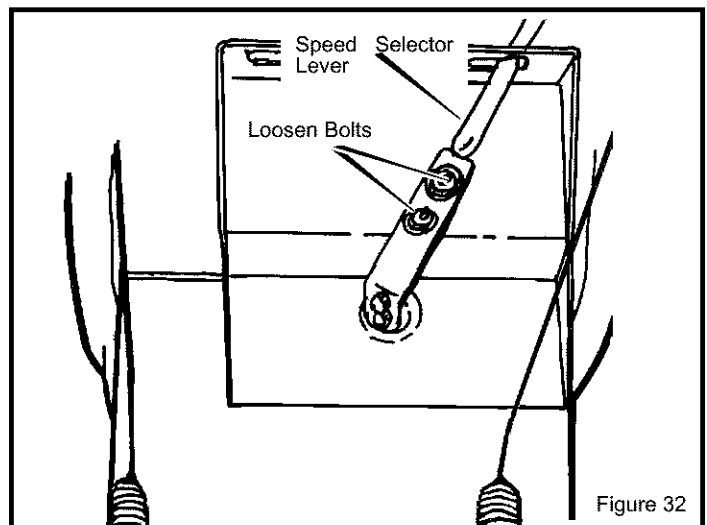

Figure 32
4. Loosen bolts in speed selector lever. (Figure 32).
4. Remove bracket from speed control lever (see Figure 32).